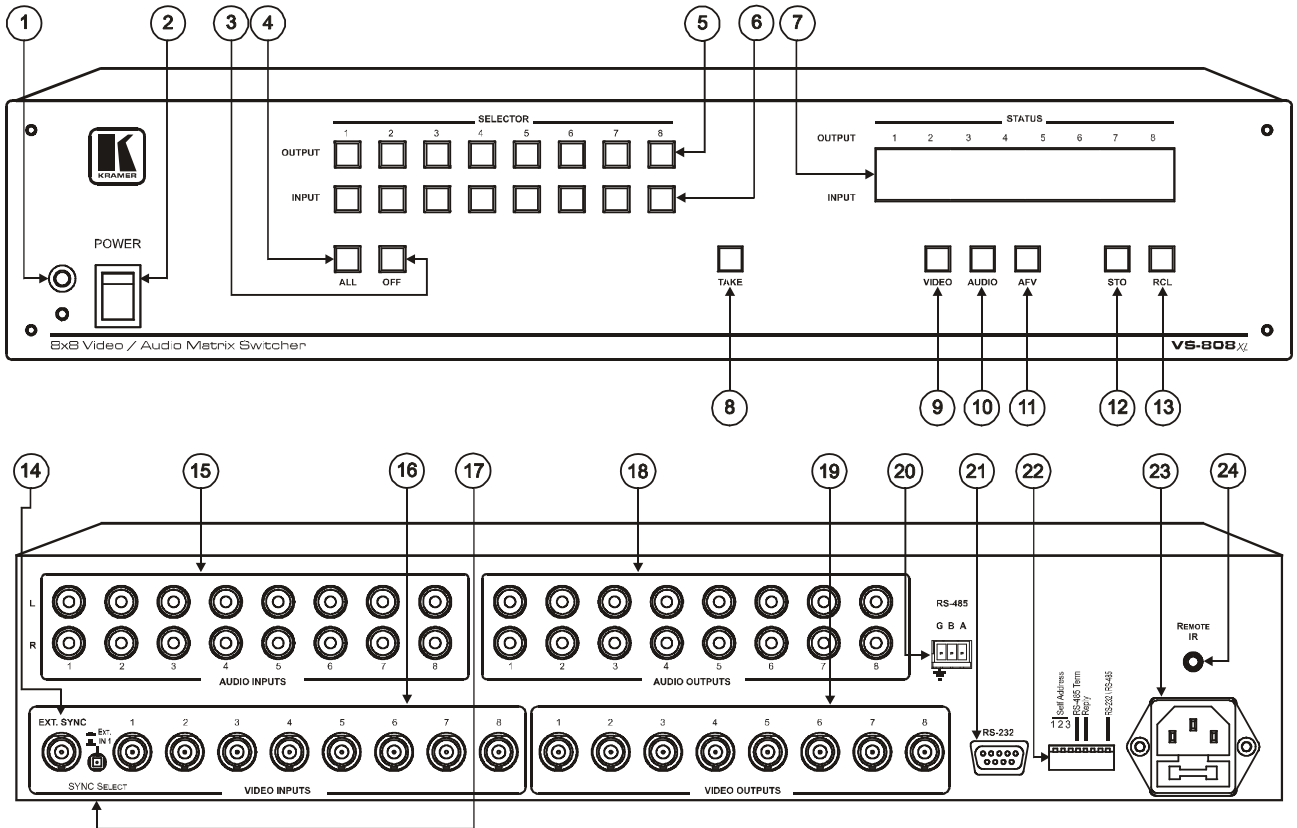

Figure 2: VS-808xl 8x8 Video/Audio Matrix Switcher
- **VS-808xl**, illustrated in *Figure 2*, has 8 inputs and 8 outputs